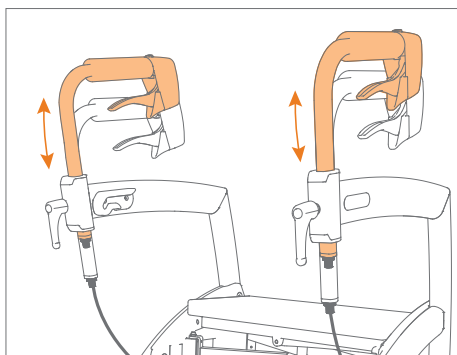

Figure 24: Set the correct height.
- Slide the handles to the correct height (**Figure 24**).